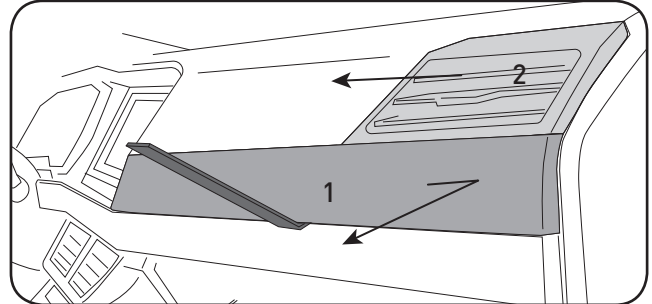

Fig. 1.3
3. Using a panel tool, remove the passenger side dash trim panel. Once clips are released, slide to the right to unhook. Remove vent by pulling outward. (Fig. 1.3)